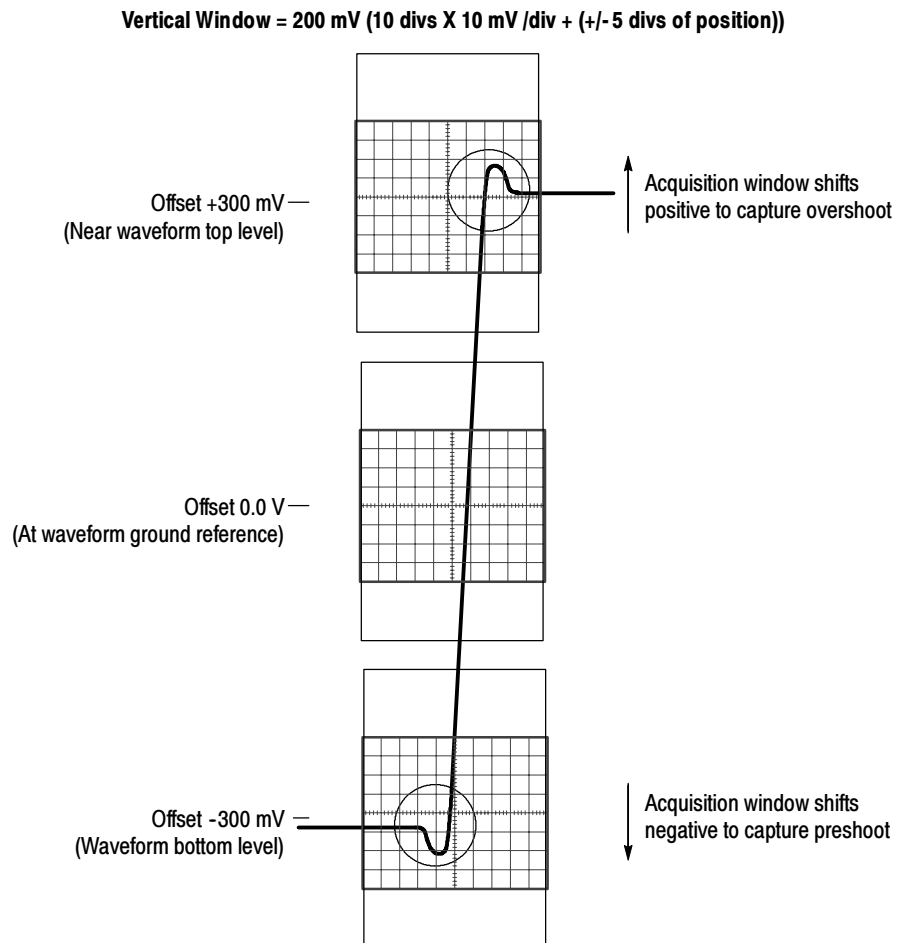

Figure 3-3: Varying offset moves the vertical acquisition window on the waveform
- As you vary vertical offset, the middle voltage level moves relative to zero. This moves the vertical acquisition window up and down on the waveform. With input signals that are smaller than the window, it appears the waveform moves in the window. Actually, a larger signal shows what really happens: the offset moves the middle of the vertical acquisition window up and down on the input signal. Figure 3-3 shows how offset moves the acquisition window to control the portion of the waveform amplitude the window captures.
- Applying a negative offset set moves the vertical range down relative to the DC level of the input signal. Likewise, applying a positive offset moves the vertical range up. See Figure 3-3.